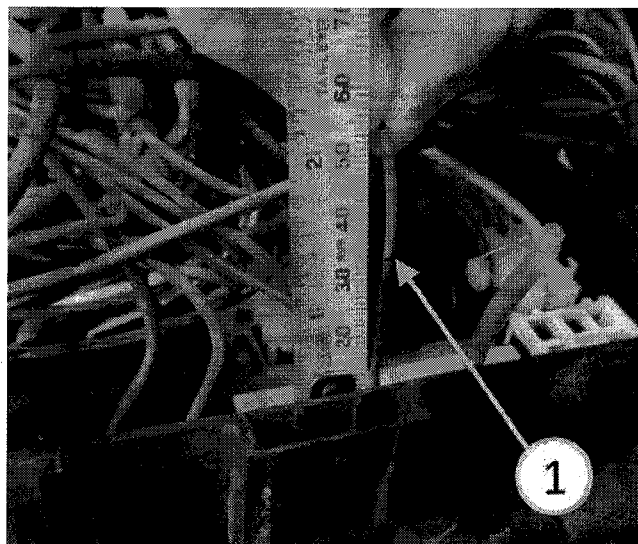

Fig. 6 Cut Wire From Cavity 12
15. Locate the RD/LB wire located in cavity 12. Place a mark on the wire approximately 35mm (1.375 in.) up from the terminal, see (Fig. 6).